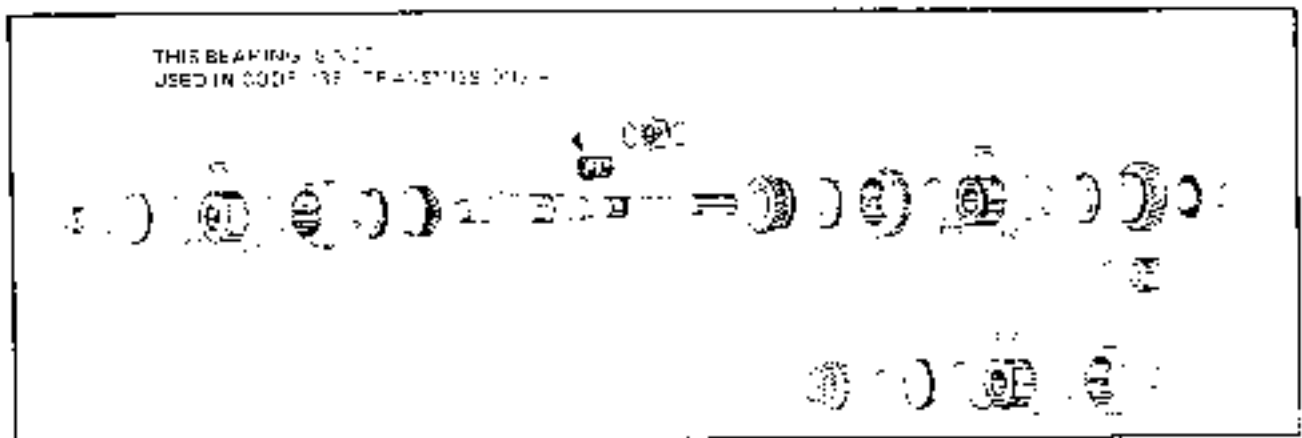

Figure 7B-1
2. 5TH SPEED MAINSHAFT GEAR: needle roller bearing has been deleted (refer Fig 7B-1). The gear now rotates on a revised bearing surface on the mainshaft.